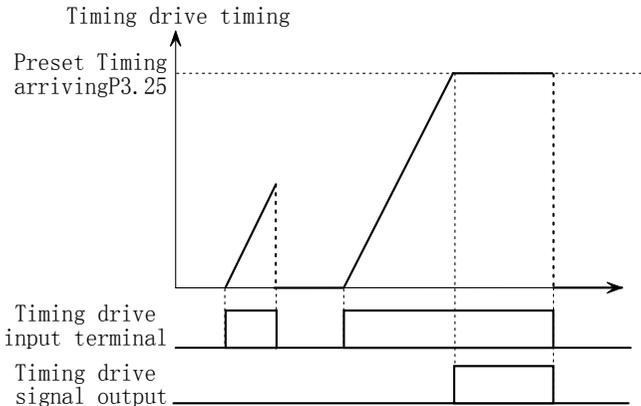

Fig. 5-3-7 Timing drive input
- ◆ If the timing arrives at preset setting of P3.25, stop timing. As shown in Fig.5-3-7: